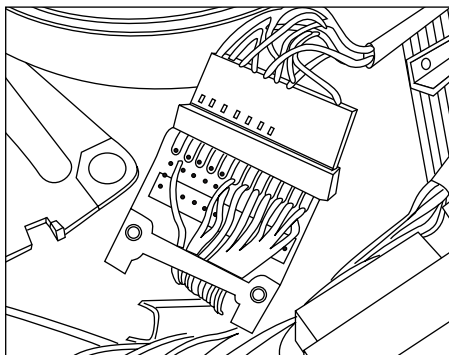

Figure 5-19. Installing Keyboard Connector
12. Install the keyboard connector, as shown in **Figure 5-19**. Secure with the tie wrap that doesn't have a mounting hole.